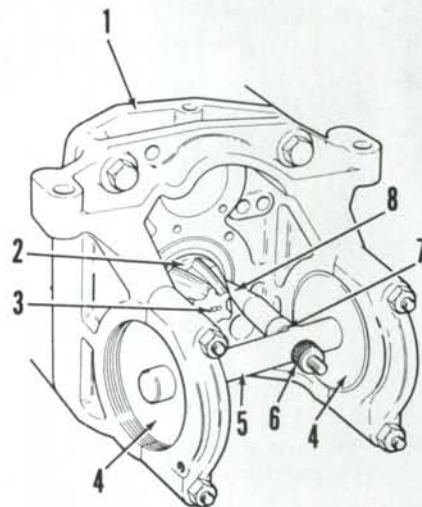
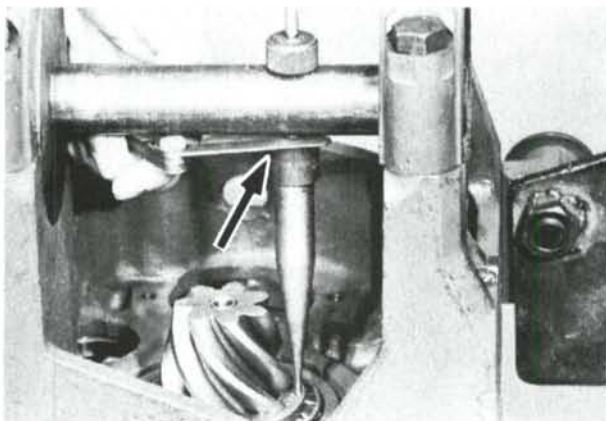

Fig. 208—Use pinion setting gage (CAS-1234) to adjust pinion shaft protrusion on all models.
Fig. 209—Use a feeler gage to measure gap between spacer and shaft.
Install special pinion setting tool (CAS-1234) in the differential support bracket and secure with carrier bearing end caps (Fig. 208). Assemble correct thickness spacer (7) on tool for model being serviced as recommended by tool manufacturer. Adjust tool until tip of probe lightly contacts surface of bearing inner race. Use a feeler gage to measure gap between the spacer and shaft as shown in Fig. 209.
Note pinion shaft protrusion correction number (3—Fig. 208) etched on end of pinion gear. The number will be preceded by either a plus (+) or minus (−) mark. Shaft will be marked "OK" if no correction is needed. The correction number indicates thousandths of an inch (example: −7 equals −0.007 inch).